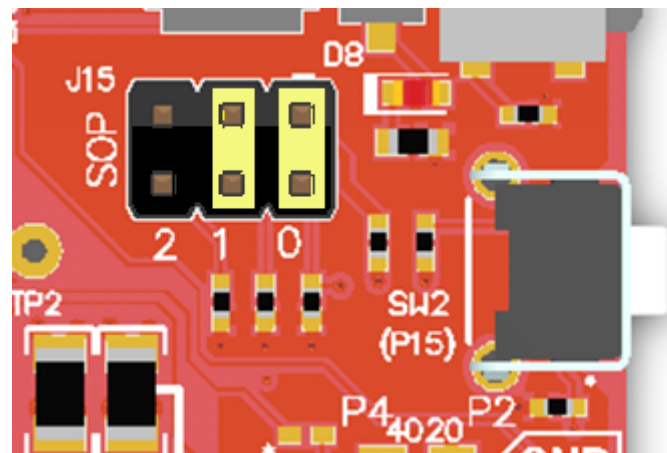

Figure 30. SOP Jumpers Configuration
1. Set the SOP to 011 (SOP2 = 0, SOP1 = 1, SOP0 = 1), and perform power on reset (POR). Device reset can be simply done by pressing SW1 Reset switch. See Figure 30 for reference of SOP jumpers.